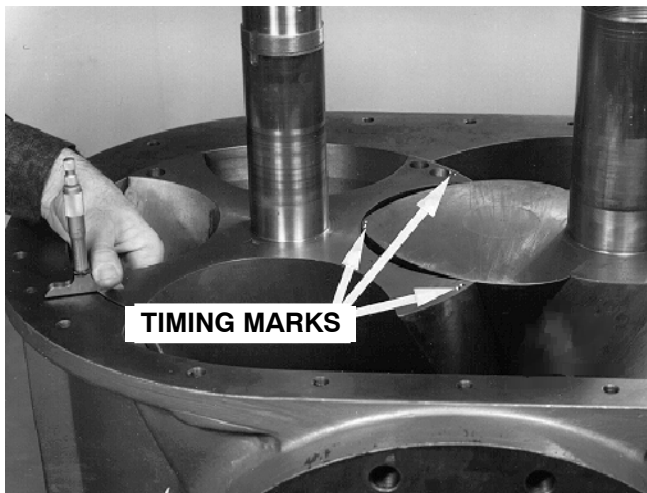

FIGURE 9
- With a depth micrometer (FIGURE 9), measure the distance from the end of the rotor lobes to the end of the housing. Rotate rotors to check each lobe and record the **largest micrometer reading**. If the measurement varies more than .005", remove the rotors and check for burrs on the gear end carrier face and the end of the rotors. To the largest micrometer reading add the Total End Clearance shown in the clearance chart, FIGURE 8, plus .002" for crush fit, to determine the thickness of the shim set.